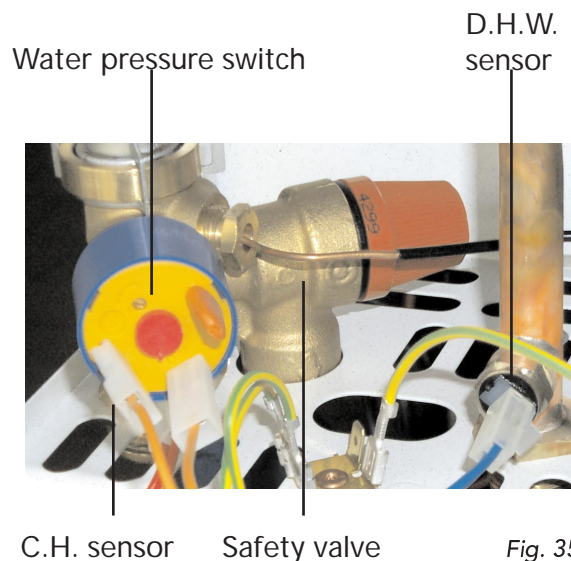

Fig. 35
7.07.1 D.H.W. temperature sensor or Central Heating Temperature Sensor (fig. 35)
- Identify the sensor from figure 35
7.07.2 Water Pressure Switch (fig. 35)
- Identify the switch from figure 35
7.07.3 Safety Valve (fig. 35)
- Identify valve from fig. 35